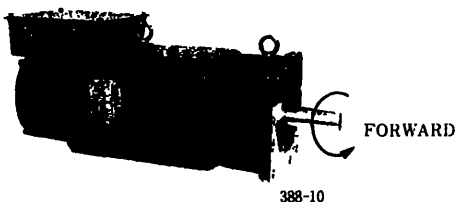

Fig. 11.1 Motor Forward Direction
- (1) Switch on (close) sequence input **RDY** after checking that the speed reference input is 0V. An excitation current flows to the motor at this time.
- (2) Input approximately 1.5V (50%) to forward-side torque limitation (1CN5-6) and inverse-side torque limitation (1CN7-8). Input of limit values is not necessary if external torque limitation is not used (if Bits 3 and 4 of Cn30 are set to ON).
- (3) Switch on (close) sequence input **RUN** and slowly increase the speed reference from 0V to rotate the motor at a speed proportional to the reference voltage.
- (4) The motor rotates in a forward direction (counterclockwise as viewed from the load side) if the reference voltage is positive. The motor rotates in a reverse direction if the voltage is negative. (See Fig. 11.1)